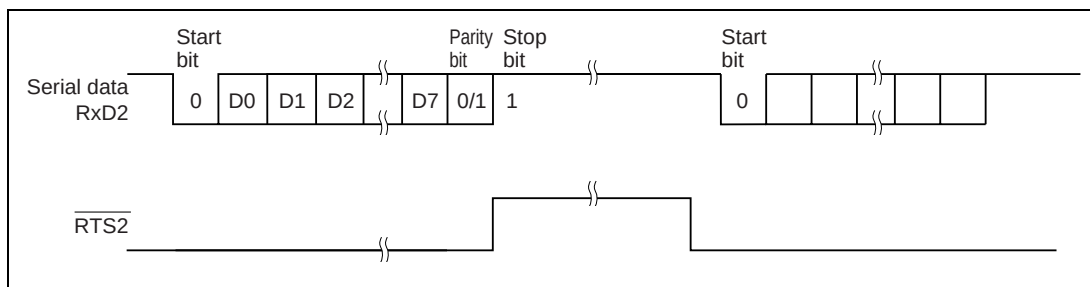

**Figure 16.13 Example of Operation Using Modem Control ( $\overline{\text{RTS2}}$ )**
- When modem control is enabled, the  $\overline{\text{RTS2}}$  signal is output when SCFRDR2 is empty. When  $\overline{\text{RTS2}}$  is 0, reception is possible. When  $\overline{\text{RTS2}}$  is 1, this indicates that SCFRDR2 contains a number of data bytes equal to or greater than the  $\overline{\text{RTS2}}$  output active trigger set number. The  $\overline{\text{RTS2}}$  output active trigger value is specified by bits 10 to 8 in the FIFO control register (SCFCR2), described in section 16.2.9.  $\overline{\text{RTS2}}$  also goes to 1 when bit 4 (RE) in SCSCR2 is 0. Figure 16.13 shows an example of the operation when modem control is used.